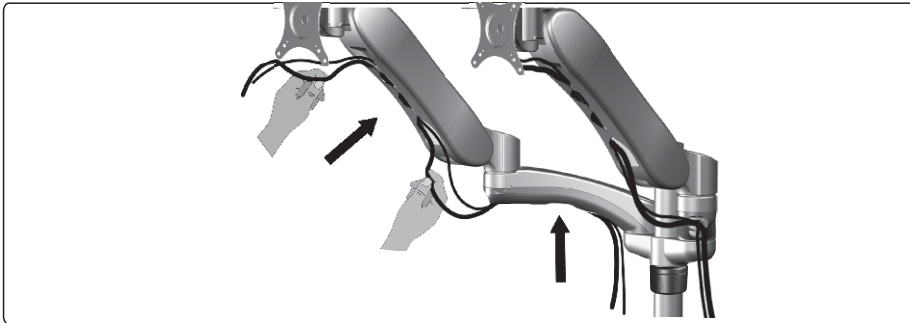

Figure 4-2
2. Feed the cables by pushing the cables into cable bracket entry slot on the underside of the Arms as shown. (See Figure 4-2)